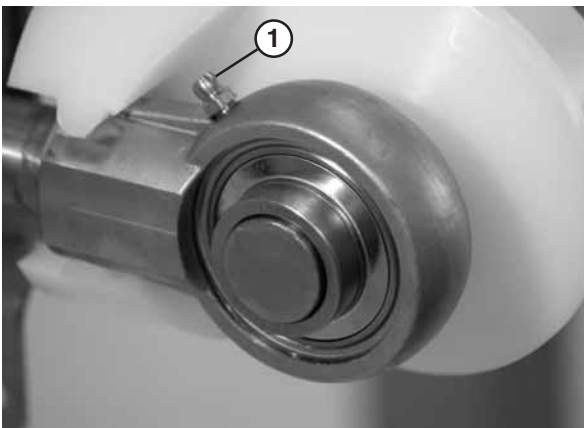

Figure 46
1. Add grease to the bearing using the zerk fitting (**Figure 46, item 1**) on the exterior of the bearing shaft assembly.